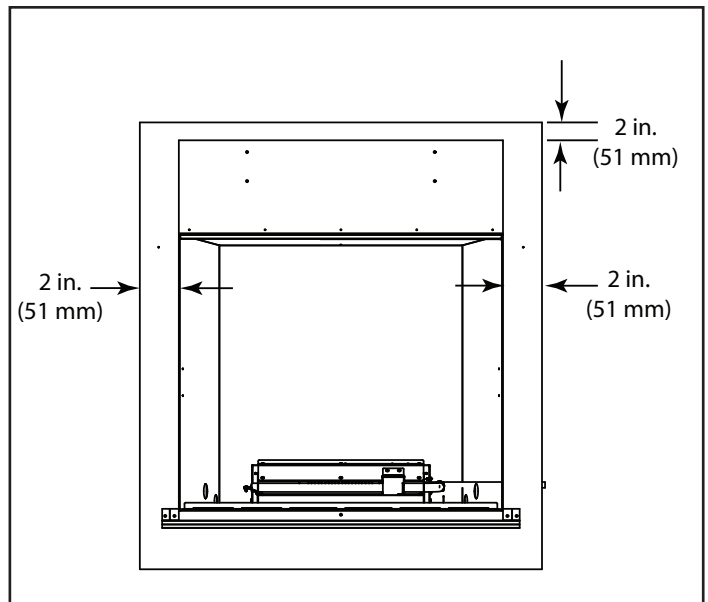

Figure 3.7. Front View Tape Location
A moisture membrane material can be taped 2" from the top of the rain shield; 2" on each side from top to bottom. The entire bottom of the unit can be used to tie in a water membrane material, however the bottom does have an incorporated drain pan with the front edge of the bottom edge being the point of moisture exiting the unit. This must be taken into consideration when sealing unit. As shown in Figures 3.7, 3.8 and 3.9.
- Flash the appliance in a manner consistent with regional practices to prevent water penetration around the appliance. Due to elevated temperatures across the top of the appliance, metal flashing and high temperature sealant must be used. Adhesive polymers flashing materials may melt. See Figure 3.7.
- See Section 3.H. and Figures 3.1 and 3.2. for more information regarding wall and enclosure construction required to prevent moisture penetration into the structure. The appliance will shed moderate amounts of water but is not waterproof. See Figures 3.7, 3.8 and 3.9.